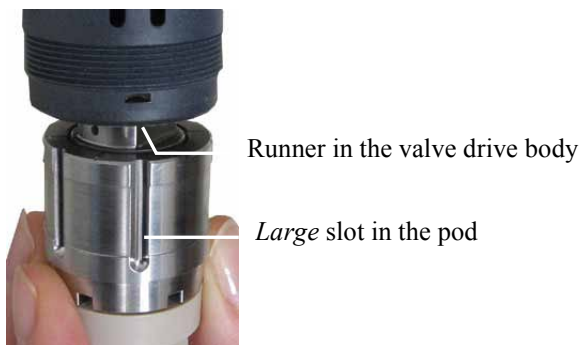

Fig. 84: Installing the pod
6. Push the replacement valve completely into the valve drive body. Be sure to install the pod in the correct orientation: Align the *large slot* in the pod (→ Fig. 84) with the matching runner in the valve drive body.